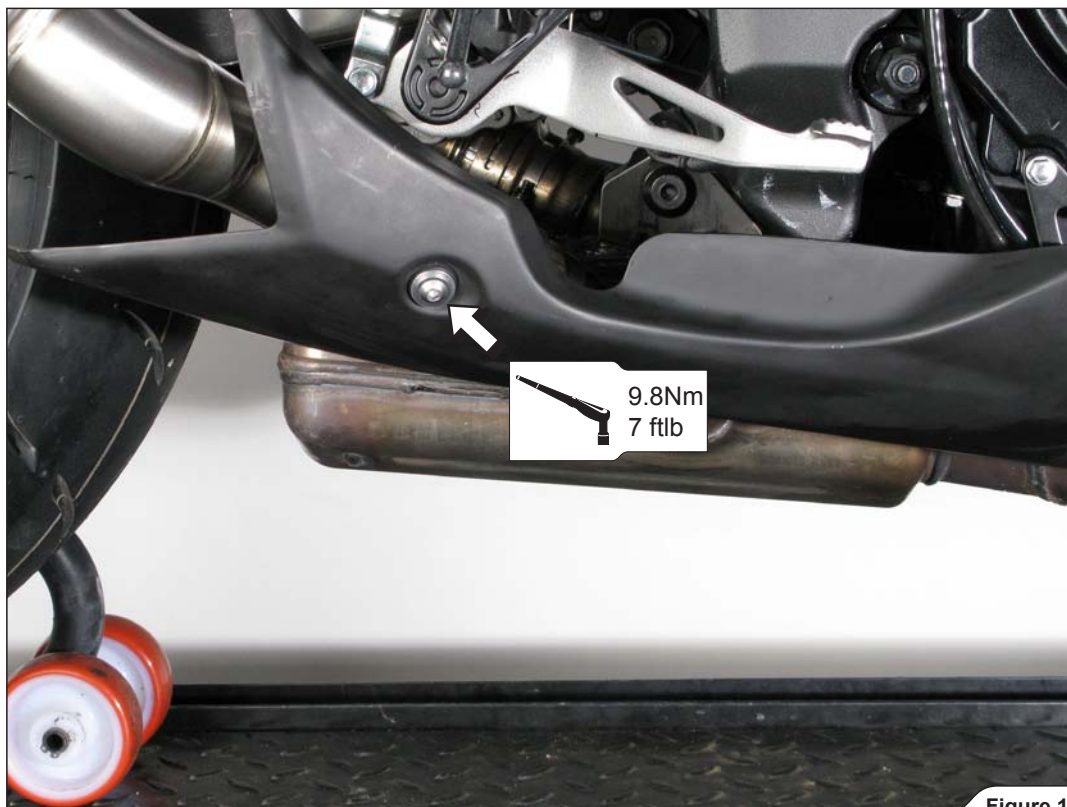

Figure 17
7. Install the stock heatshield back on the right side of the motorcycle, using stock bolt and washer (**Figure 17**).